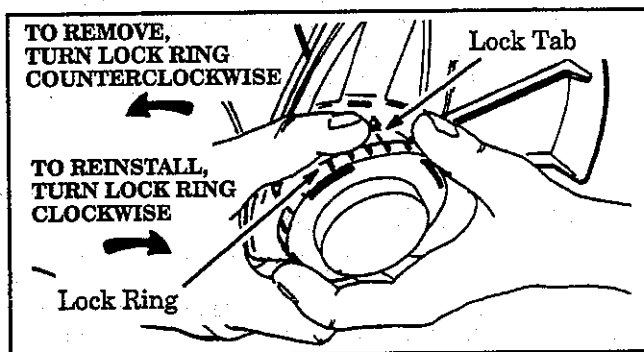

Figure 15
- Hold the unit as shown in Figure 15. Press the lock tab and turn the lock ring counterclockwise. Figure 15.